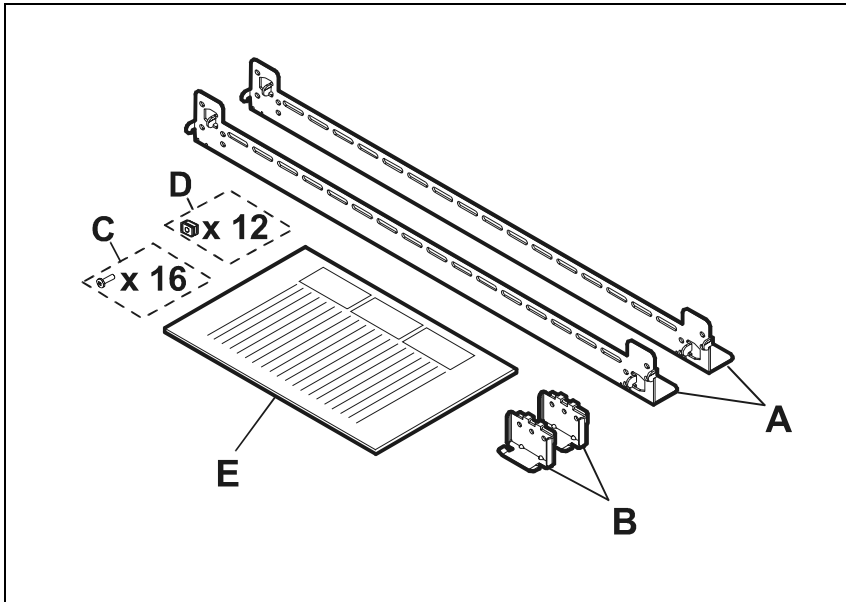

Figure 17 Rail Kit A5251A Contents
1. Unpack the rail kit and verify the following contents (Table 9 and Figure 17).